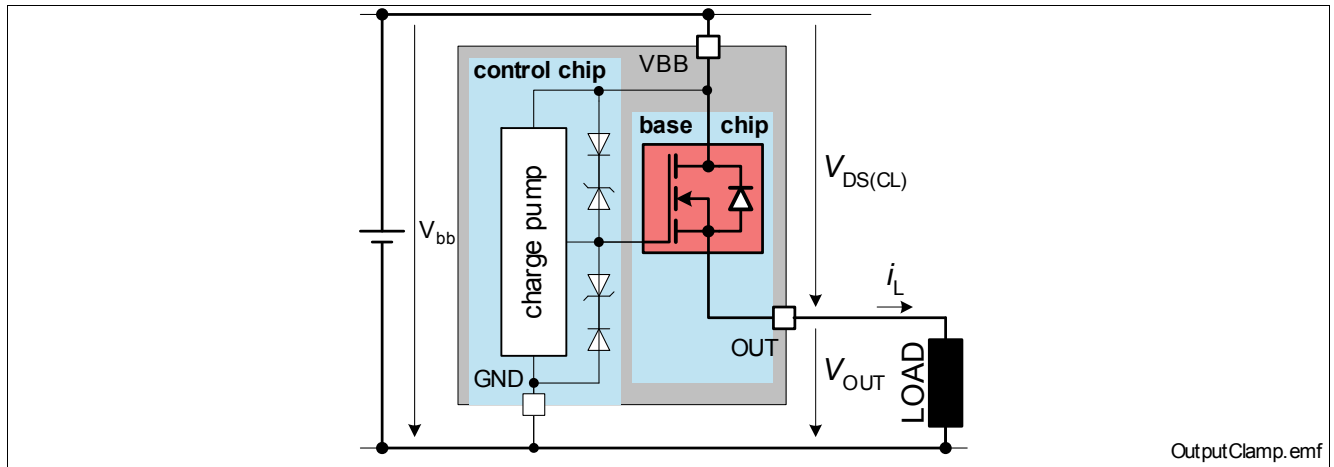
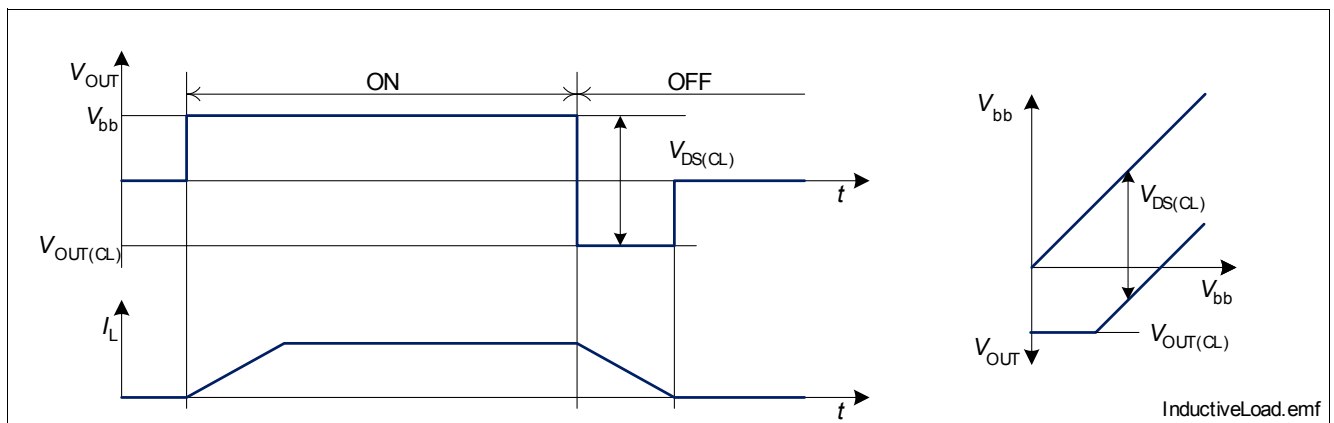

Figure 9 Output Clamp
Figure 10 Switching an Inductance
The power stage is designed for high side configuration (**Figure 9**).
To prevent destruction of the device, there is a voltage clamp mechanism implemented that keeps the voltage drop across the device at a certain level. At nominal battery voltage the output is clamped to $V_{OUT(CL)}$. At over voltages the output is clamped to $V_{DS(CL)}$. See Figure 9 and Figure 10 for details. The maximum allowed load inductance is limited.
- 5) See Figure 10.